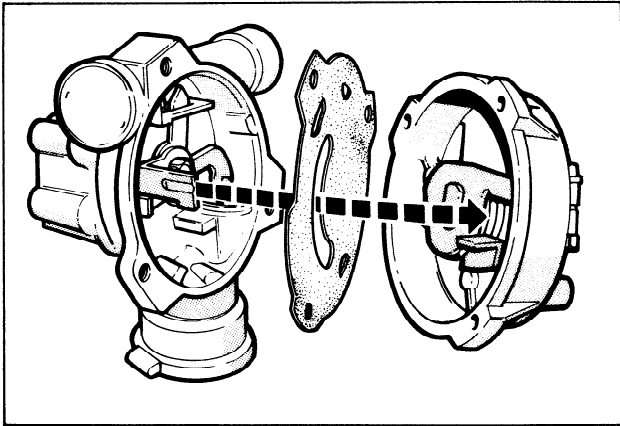

FIG. 29 Refitting Lever Assembly to Choke
2. Position new gasket to choke assembly and with choke linkage at mid-travel point install lever housing by engaging spring loaded arm over linkage lever (Figure 29). Secure lever housing and cable support bracket to choke assembly.